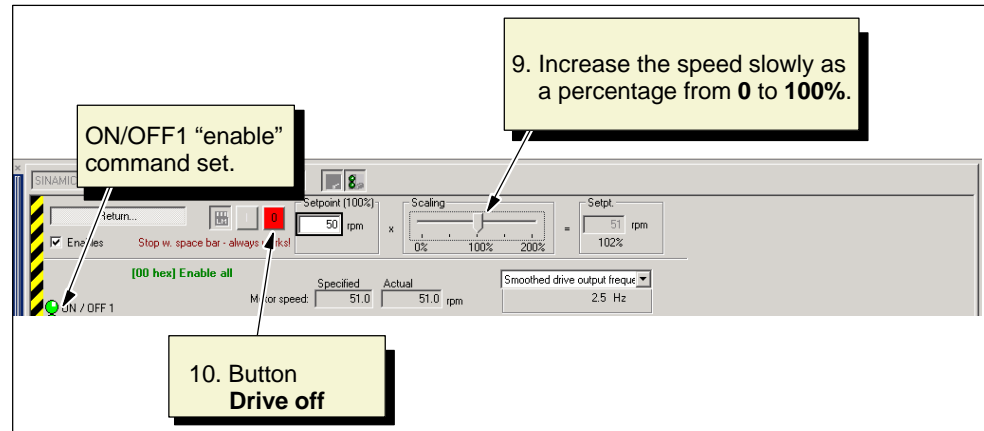

Fig. 4-12 The motor starts to rotate
8. Click **Drive on**. The ON/OFF1 "enable" command is set and displayed on the control panel (see Fig. 4-12).
9. Move the slider for the speed slowly from 0 to 100% (see Fig. 4-12).